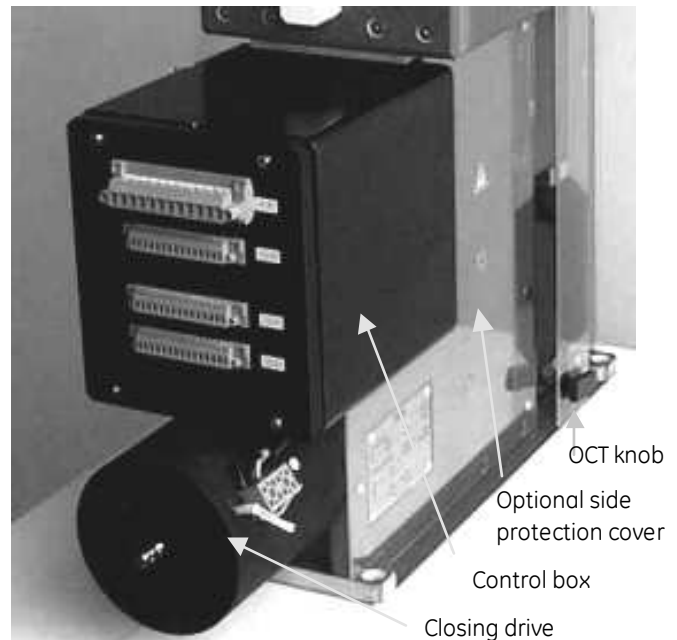

Fig. 16 Solenoid closing drive and control box
- When supplied with the optional transparent side protection covers (Code 15), a fixed mounted insulated knob is provided to enable OCT adjustment [Fig. 16].
- A high power solenoid is used to perform fast closing operation. This drive is mounted at the front of the breaker and is encased in a grounded casing [Fig. 16].